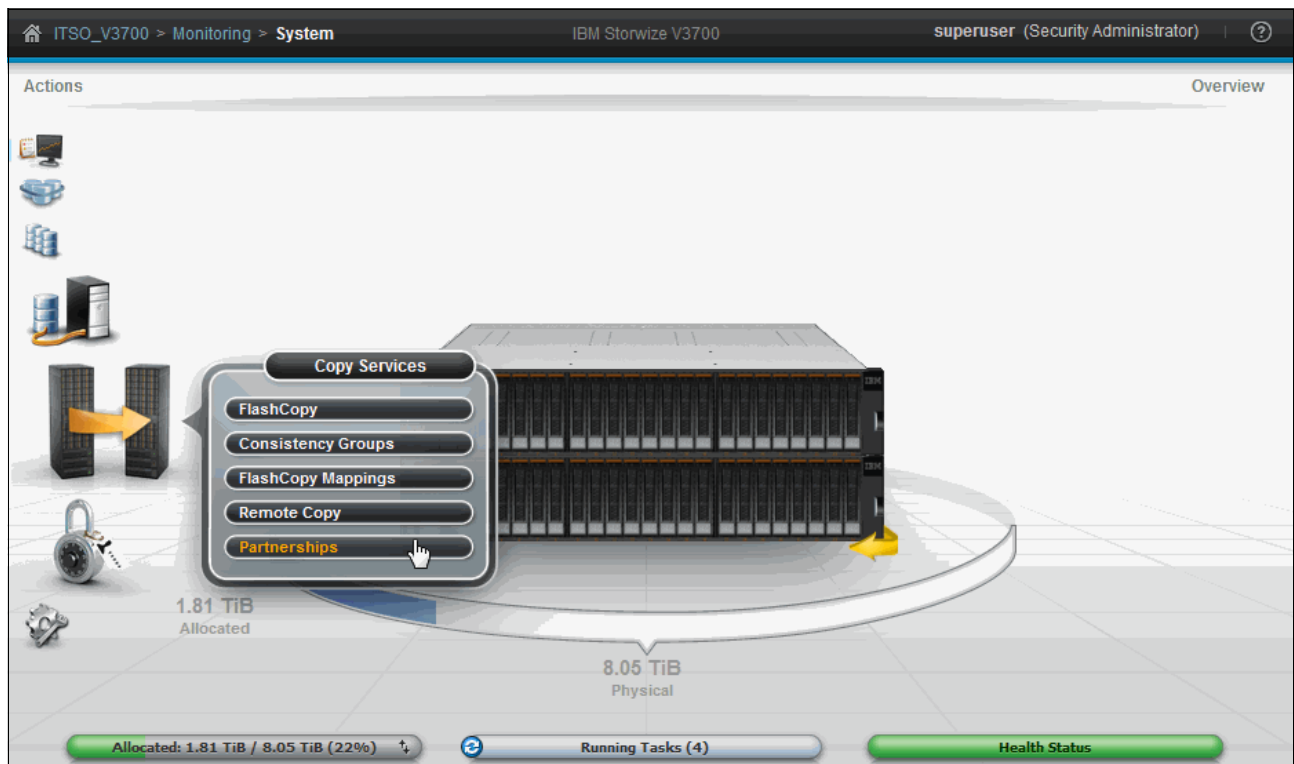

Figure 10-84 Partnerships window
2. Click **Partnerships**, as shown in Figure 10-84.